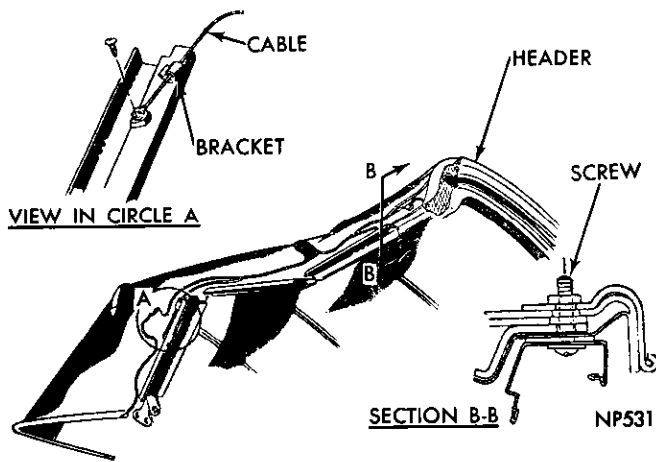

Fig. 12—Cover Tension Cable
(10) Remove sealing tape, staples, drive nails and tacks at the top header.
(11) Mark location of top material bead on ends of cover pads and loosen vent wing seals at corners.
(12) Remove front screws from front roof rail weatherstrip retainers and remove locking flaps from between retainer and roof rail.
(13) Remove cover cables at front roof rail weatherstrip retainers and at rear pillars (Fig. 12). If original cover is to be reinstalled tie a cord to one end of cables prior to removing. When cables are removed cord should be left in listing.
(14) Remove cover from the folding linkage.
(15) Remove rear curtain assembly.